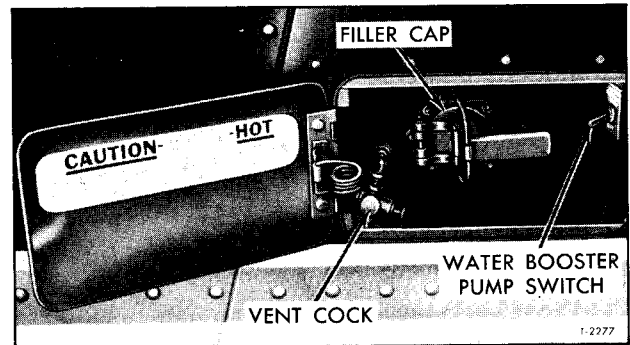

Figure 1—Cooling System Filler Cap, Vent Cock, and Water Booster Pump Switch
Pressure valve at surge tank is used to maintain pressure within cooling system. Temperature of coolant within engine is controlled by engine thermostats in thermostat housing at front of engine. Cooling system is filled through filler cap at surge tank (fig. 1).
3. Open filler cap (fig. 1) and slowly fill system to level of filler cap opening.
5. Hold lever of "WATER BOOSTER PUMP" switch (fig. 1) up for a minute or more; this will speed up circulation through entire system.
2. Open filler cap (fig. 1). Slowly fill system to level of filler cap opening.